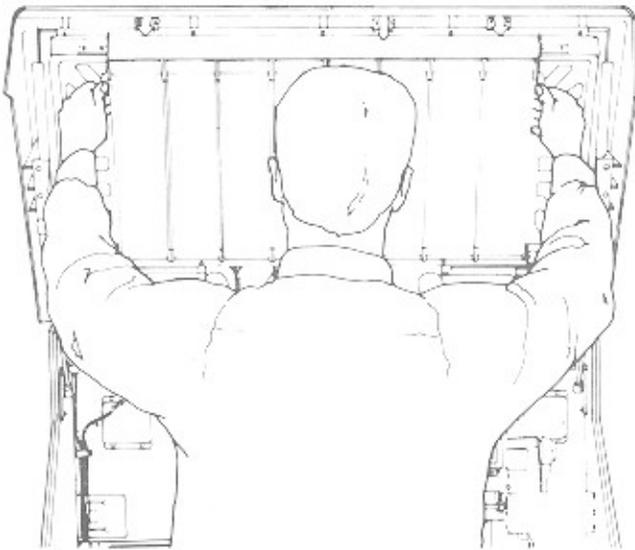

Figure 3-3. Lowering Title Panel
2. Release the title panel as shown in figure 3-3.